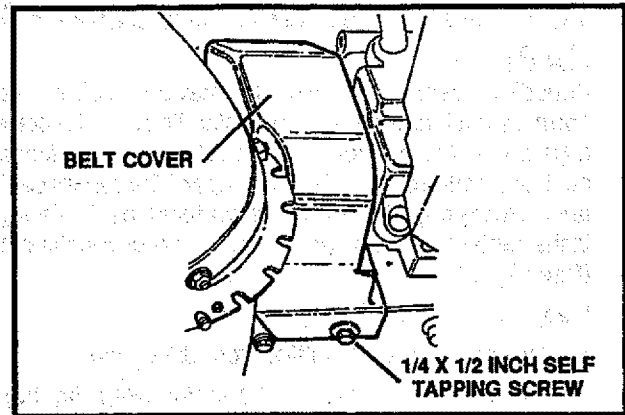

FIG. 28
- Remove the belt cover (See Fig. 28)